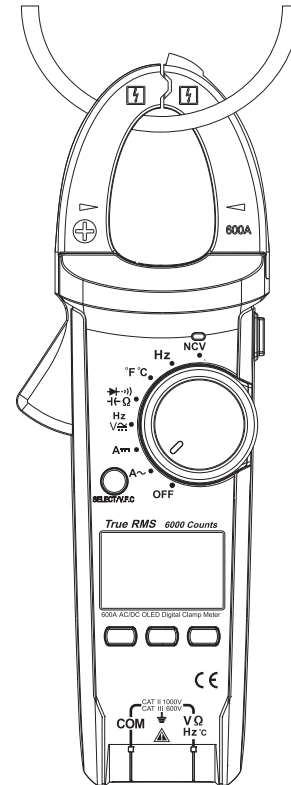

Fig. 3
**2.Measurement of DC current (shown as Fig. 3)**